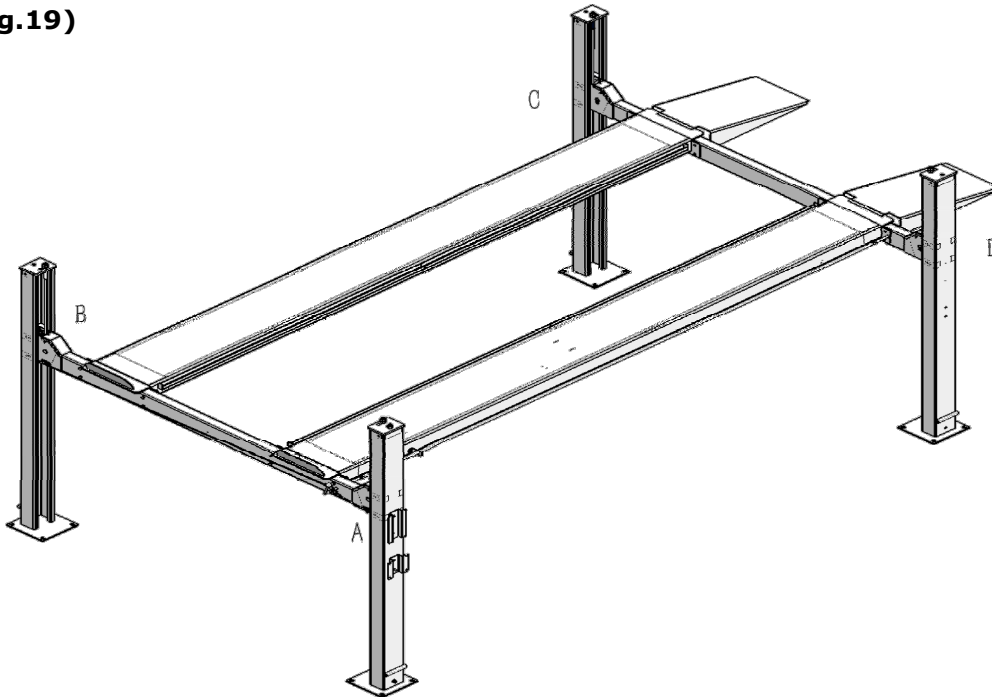

**Fig.18**
**G. Install the offside platform and limit slide block, and platform strengthen bolts. Check the verticality of columns with level bar and adjust with shims. (See Fig.18)**